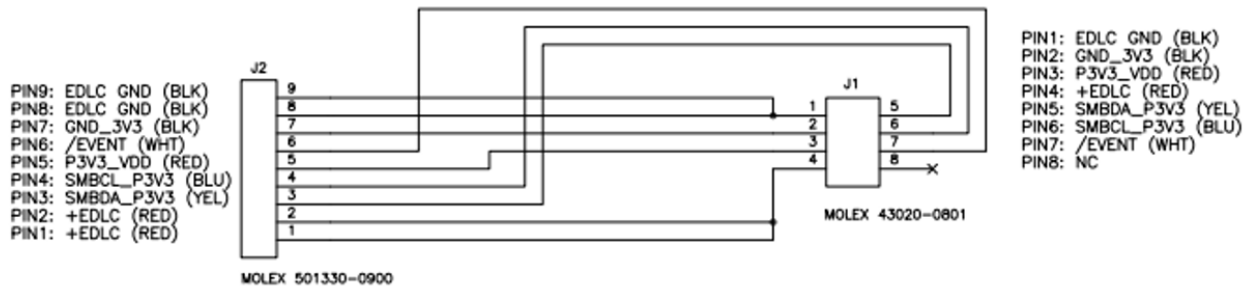

Figure 20. Extender cable pinout
The extender cable has an 8-pin Molex 43020-0601 connector on one end and a 9-pin Molex 501330-0900 connector on the other end. Two (2) versions of the cable are included in the kit, one 605 mm long and the other 930 mm long. The routing of the cable is shown in Figure 20. Extender cable pinout